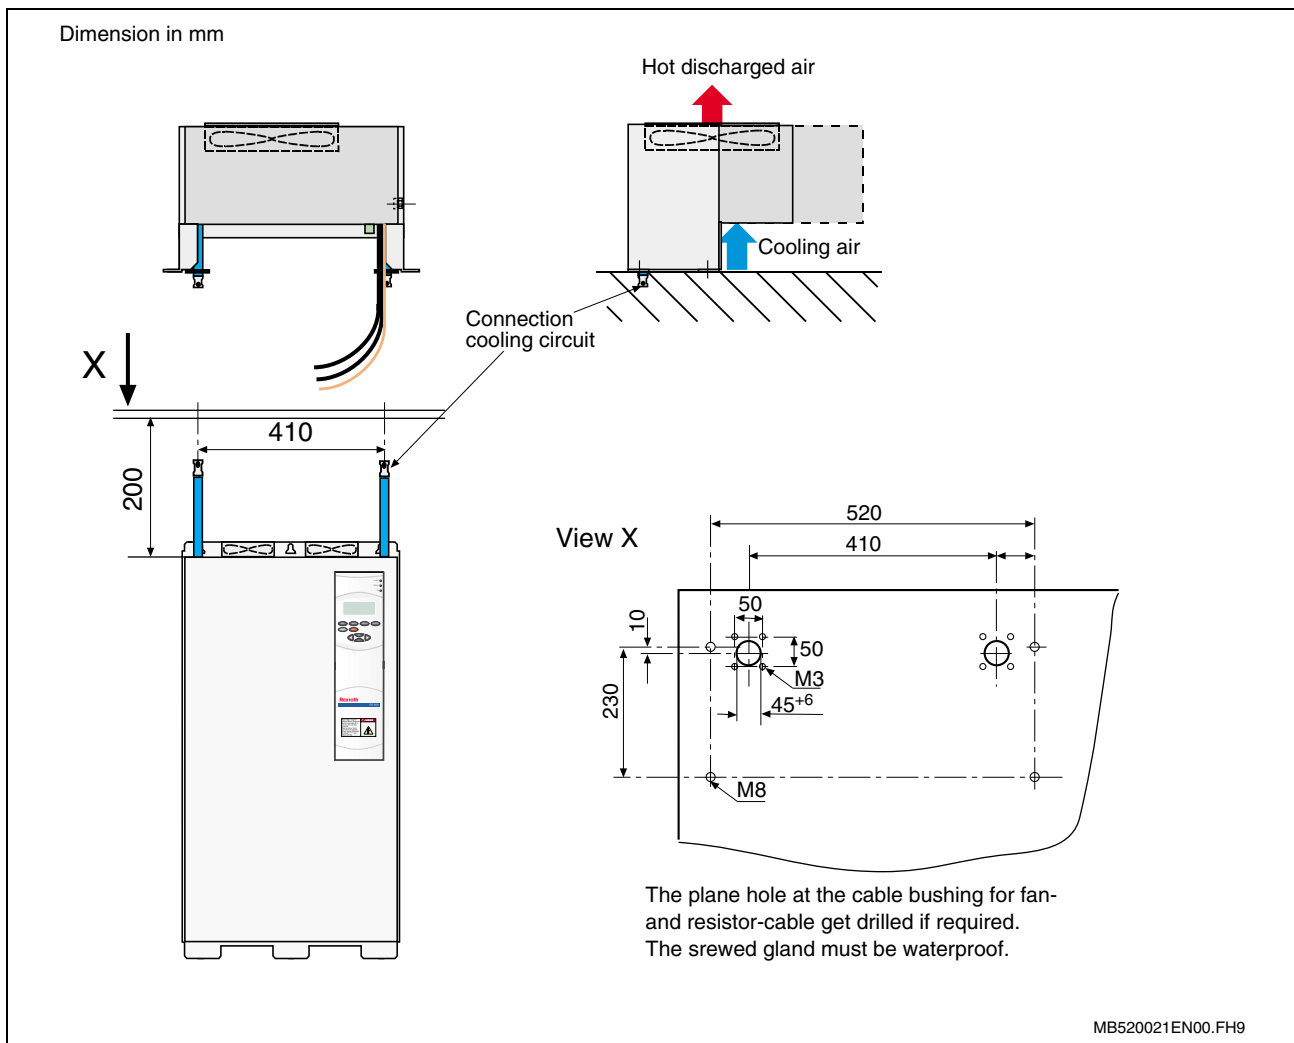

Fig.: 5-22 Dimension sheet for cabinet roof mounting, size class G
- Attach the external heat exchanger to the desired location. This can be mounted on the roof or wall of the cabinet. See Fig.: 5-22. Additional technical data are described in documentation DOK-RD500*-RD500*SUPPL-FKxx-EN-P (Accessories).